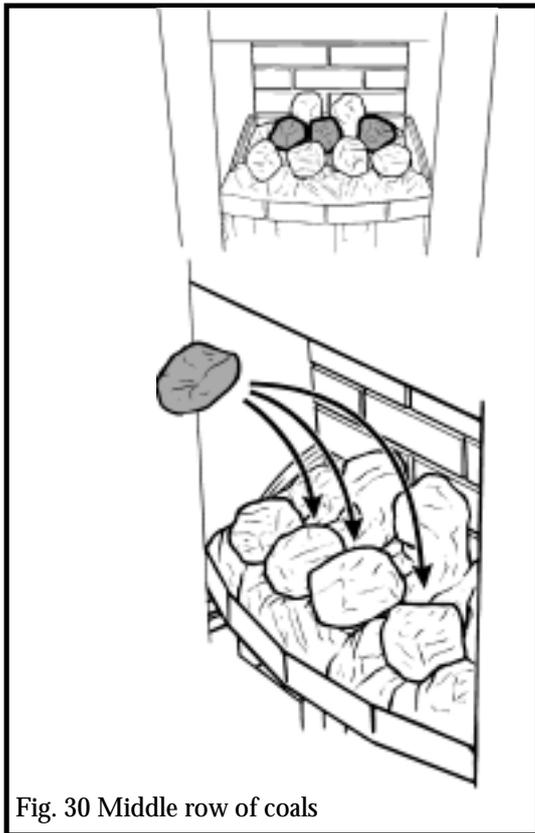

Fig. 30 Middle row of coals
10.5.3 Place the three remaining coals behind and approximately midway between each of the coals in the front row (See figure 30).